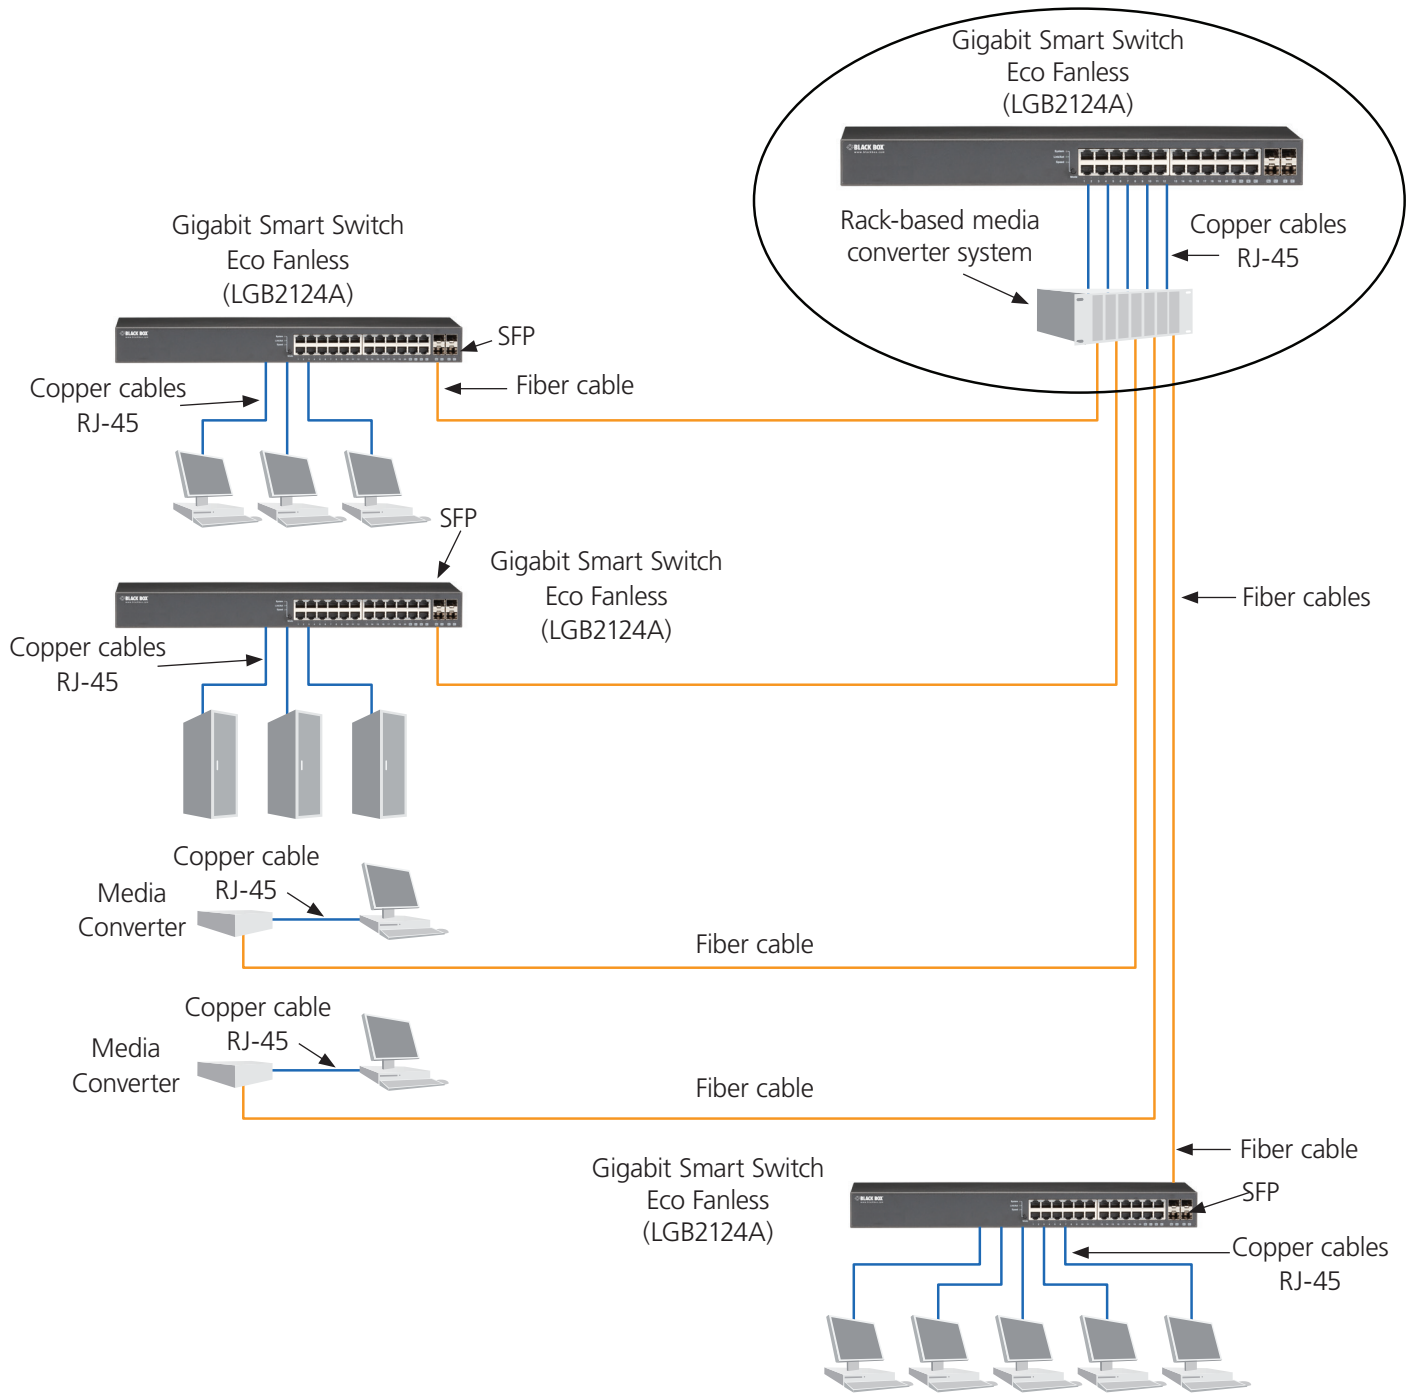

Figure 3-14. Network connection between remote site and central site.
- Central site/remote site application is used in carrier or ISP (see Figure 3-14).
Fig. 3-14 is a system-wide basic reference connection diagram. This diagram demonstrates how the switch connects with other network devices and hosts.